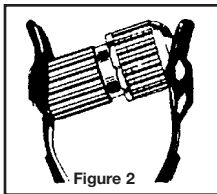

Figure 2
2. This complete tightening forces the liquid into the mixing chamber, thereby assuring proper handling and physical characteristics. Without delay, insert capsule (bottom first) into the amalgamator arms (see Fig. 2). Figure 4 gives approximate mixing times for various amalgamators. These are suggested ranges; however, your clinical experience in obtaining a good mix consistency with your unit remains the best guide to mixing time. Use the first five caps to establish the best mix time (See Guidelines for Optimal Mix).